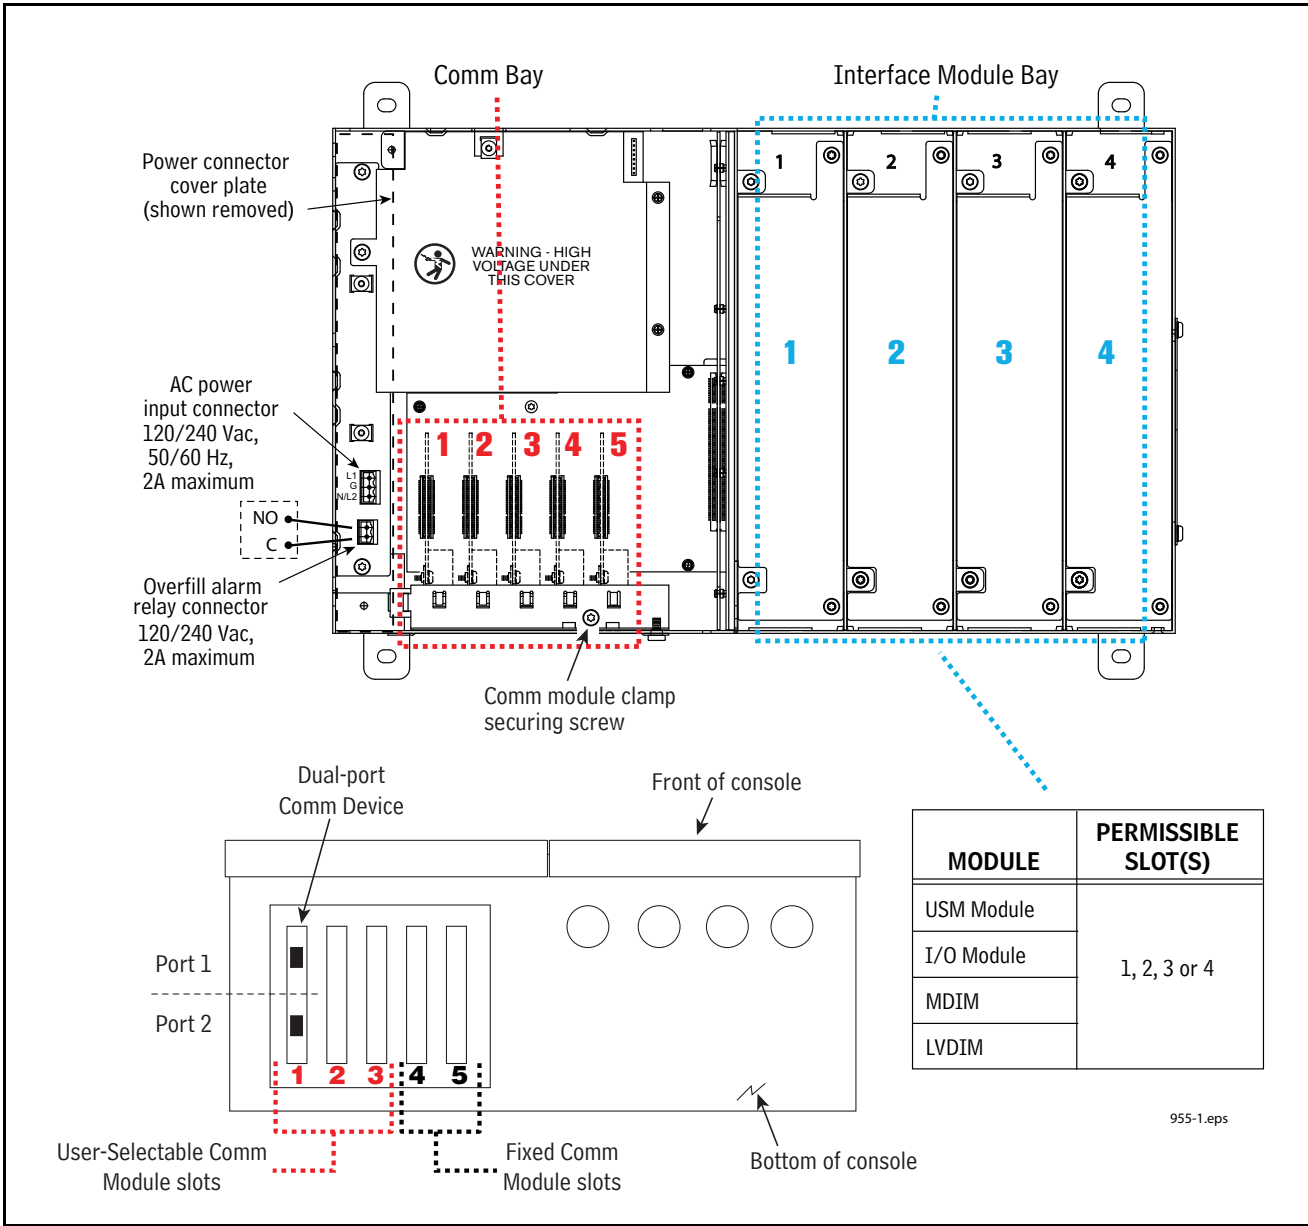

Figure 3. TLS-450PLUS Console Plug-In Module Bays
Figure 3 illustrates the maximum number of modules allowed in each of the two bays of the console.
3. Each Interface Module slot is numbered from 1 to 4 from left to right as shown in Figure 3.
The TLS-450PLUS doesn't have pre-assigned slots for the Interface Modules so any of the four slots can accommodate intrinsically safe (USM) or non-intrinsically safe (I/O, MDIM, etc.) Interface Modules (see Figure 3). Since the Interface Modules can be installed in any of these 4 slots, install them where it makes the most sense for conduit connections. Caution! USM wiring inputs are intrinsically safe and conduit containing this wiring must attach to the knockouts above or below the slot in which the USM module is installed.
3. Figure 3 illustrates acceptable Intrinsically-Safe USM module positions in the Module Bay of the console. After installing the USM module, remove a connector from the USM module, loosen the screws, insert the wires and tighten well. Make sure these wires are tight in the connector block. Connect all probe and sensor wires and then reconnect the block to the USM module.
3. Figure 3 illustrates acceptable non-intrinsically safe module positions in the Interface Module Bay of the console.
3. The Comm Bay is divided into 5 communication slots numbered from 1 to 5 going left to right (see Figure 3). Only slots 1-3 are available for user-selectable Comm modules. The Comm Modules in Slots 4 and 5 are fixed and can not be moved.
4. Using a T-15 Torx driver, loosen the module clamp securing screw and remove the clamp (see Figure 3).